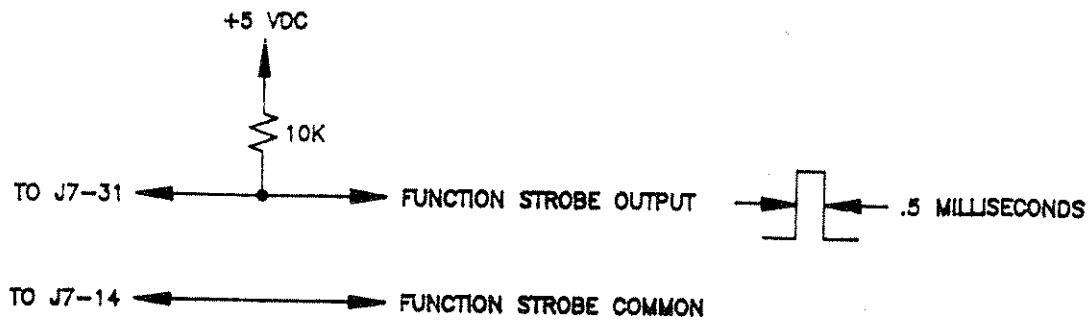

Figure 3-2
- J7-31 F STB HI: Function Strobe High signal. This is the collector lead of an optically isolated NON transistor. The internal power controller turns this transistor on to indicate a change of programmed values. This output will sink more than 2 milliamps to a TTL low logic output level (<.4 volts). The output is an open, collector optocoupler output. A pullup resistor to a + VDC must be connected to J7, pin 31. J7, pin 14, is the common output. Refer to Figure 3-2.